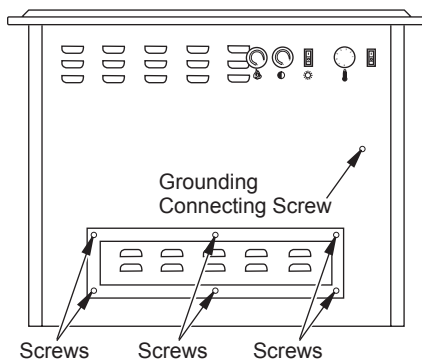

Figure 8 - Locating Flame Generation Cylinder
1. Unscrew the 6 screws from back of stove shown in Figure 8. Remove metal plate. AVOID STRESS TO THE WIRES.